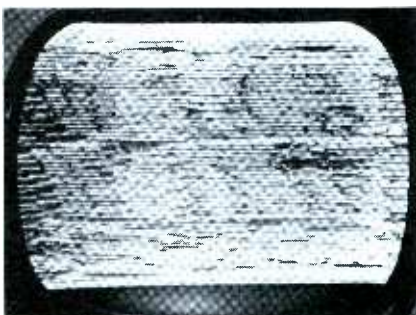

Fig. 5. Severe sync loss with ragged edges is called "Christmas-tree effect."
For a quick operational check of the transmitter, key it while holding it within several feet of an ordinary AM radio tuned to 640 kc. (In recent models, this corresponds to the *Conelrad* marking near the low end of the dial.) Since 640 is approximately the second harmonic of the 322.7-kc transmitter frequency, the control signals will normally be heard on the radio as a "do-re-mi-fa" series of audio tones. If you suspect that the transmitter's output is weak, remove the back of the case and check the base-emitter voltage of the transistor. (Proper test points are indicated in Fig. 5.) You should get a DC reading of -1.5 to -2 volts whenever you press one of the buttons; any lesser reading means insufficient output.
**Fig. 5. Remove back of case for access to all coils, battery and transistor.** considerable RF noise is present, you may have to cut down the sensitivity of the remote receiver. Although this will reduce the effective operating range of the transmitter, it will increase the reliability of the system.
use a normally-operating receiver as an indicator; the job is much easier that way. The RF trimmer (Fig. 5) is adjusted for maximum AC voltage at the audio-output test point, and the reed relay is used as an indicator while the slugs in the audio coils are being retuned. Watch the shortest reed when adjusting the highest-frequency coil—and so on down the line. When you're on the right frequency, the reed will vibrate and energize its associated relay.
In Fig. 3, the complete absence of any vertical deflection (resulting in a brilliant, thin horizontal line) indicates that the trouble is in the vertical deflection system. Consequently, that section of the receiver is the place to look. Another type of trouble in the vertical system might lead to the distorted indication shown in Fig. 4. The picture is folded over at the bottom, indicating that vertical sweep is not linear. This trouble is generally caused by some defect in the vertical output stage, although the oscillator circuit is at fault on occasion. The final illustration, Fig. 5, illustrates a severe loss of horizontal synchronization. This symptom, known as the "Christmas-tree effect," produces a completely jumbled picture; its cause is highly erratic operation of the horizontal oscillator.